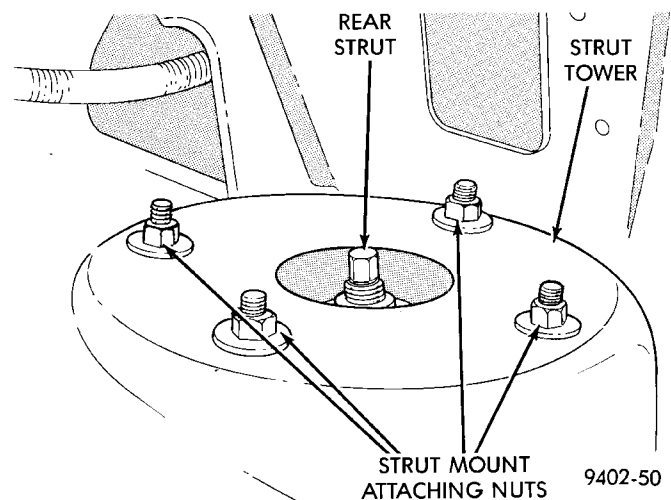

Fig. 7 Strut Mount Attaching Nuts
(8) Loosen but do not remove the 4 upper strut mount to strut tower attaching nuts (Fig. 7). Then while supporting the strut assembly fully remove the 4 strut mount attaching nuts.
(1) Position strut assembly back into vehicle with the 4 studs on strut mount assembly through holes in strut tower of vehicle. Install the 4 strut mount to body attaching nuts (Fig. 7) onto mount studs. Torque the 4 strut mount to body attaching nuts to 34 N·m (300 in. lbs).